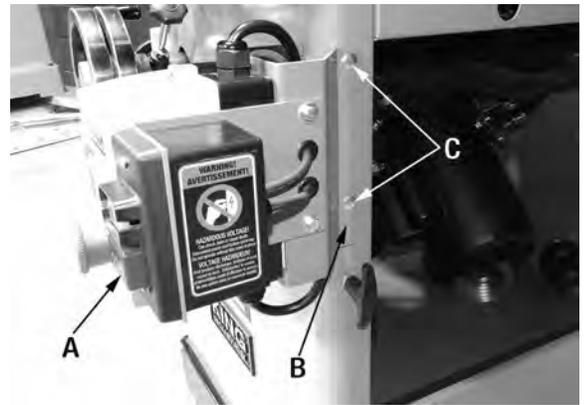

FIGURE 4
1. Remove the switch assembly (A) Fig.4 from the inside of the saw cabinet. Mount switch assembly mounting bracket (B) to the cabinet as shown using two carriage bolts (C) and hex. nuts.